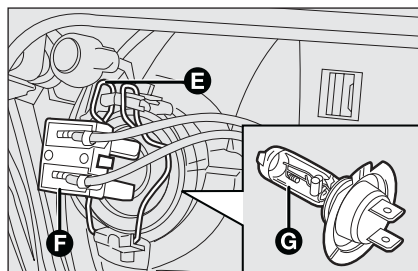

fig. 22
- disconnect the electrical connector **F**-fig. 22;